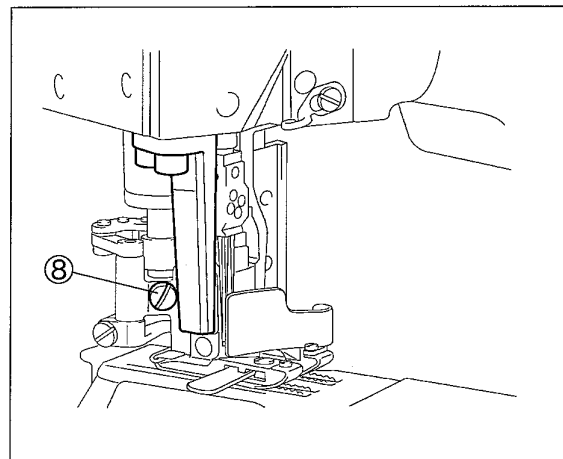

Fig. 6-31
- (1) Remove all needles and the seal plug①.
- (2) Remove the adjusting screw ② and then the screw ③ of the presser bar connecting bracket.
- (3) Loosen the screw④ of the knife holder guide collar to be free the complete set including the upper knife, the knife holder, and the knife holder shank.
- (4) Loosen two screws ⑦ of the knife holder bracket ⑥ to remove the knife holder guide collar, c. set ⑤ and the upper knife.
- (5) Loosen the screw⑧ on the back of the presser foot. (on the left side on “-07” and “-12” models: Fig. 6-31)